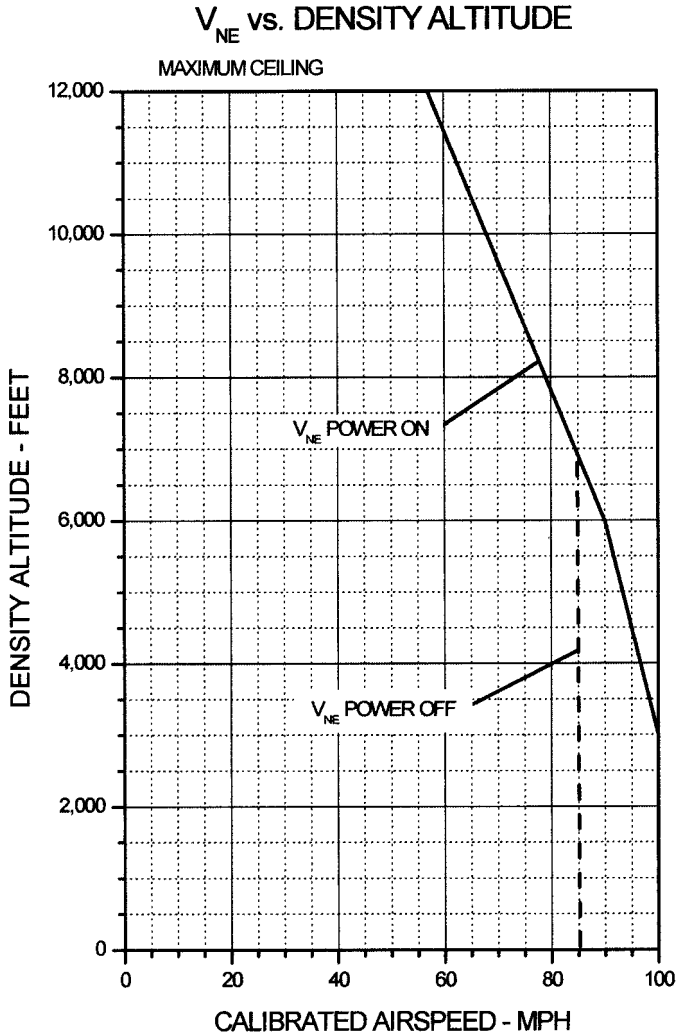

Figure 10-8-1. V_{NE} vs. Density Altitude
- a. Never exceed speed, V_{NE} , is 100 MPH IAS from sea level density altitude (DA) to 3000 ft DA. For variations above 3000 ft DA, refer to placard in Paragraph 10-8-6 below and Figure 10-8-1.
1. Figure 10-8-1: V_{NE} vs. Density Altitude